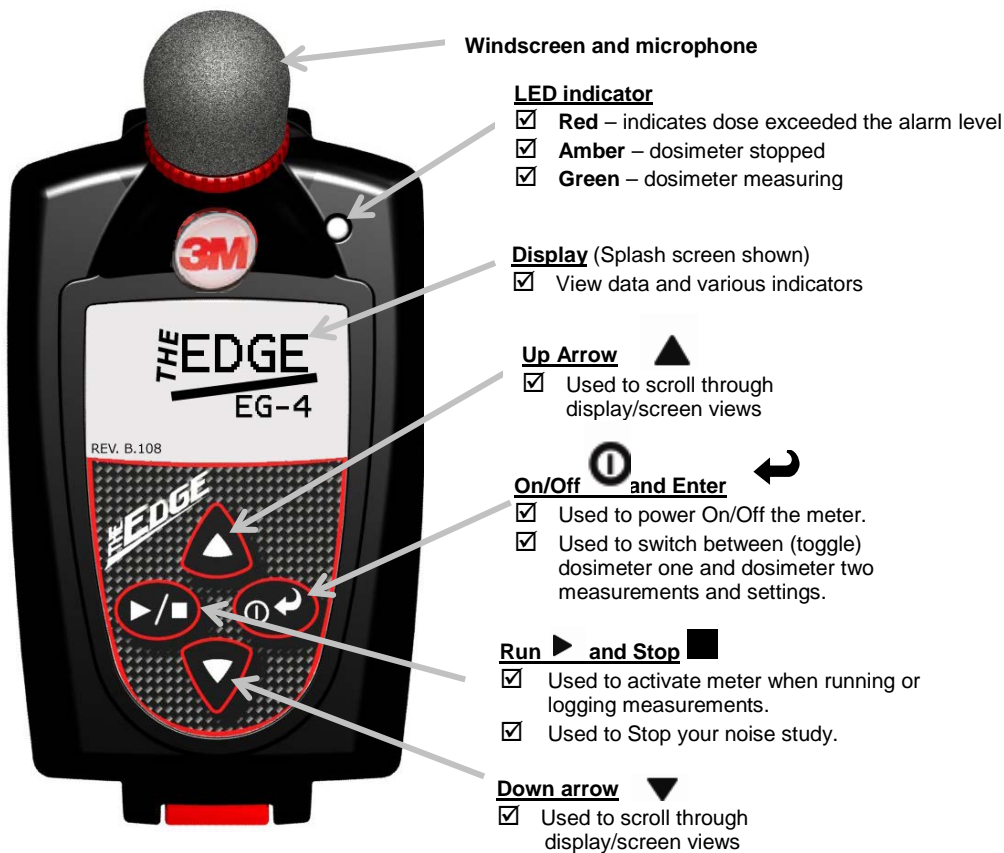

Figure 2-3: Edge Keypad
- ☑ The Edge **splash screen** (see Figure 2-3 for an example, page 10) will appear indicating the model (i.e. "eg4") and firmware version. The screen will be in the **measurement view**.